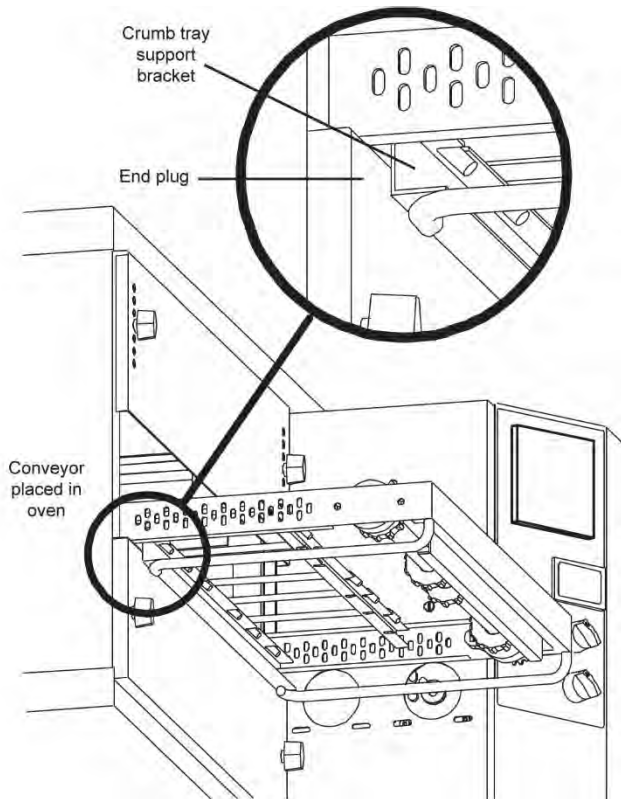

Figure 15. Conveyor Placement
2. Continue moving the conveyor into the oven until the frame protrudes equally from each end of the oven. Check that the crumb tray supports located on the underside of the conveyor frame rest firmly against the lower end plugs, as shown in Figure 15.